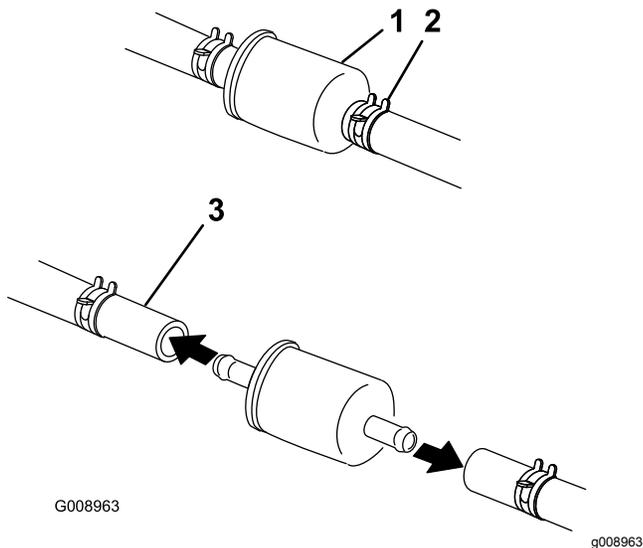

Figure 44
5. Squeeze the ends of the hose clamps together and slide them away from the filter (Figure 44).
7. Install a new filter and move the hose clamps close to the filter (Figure 44).